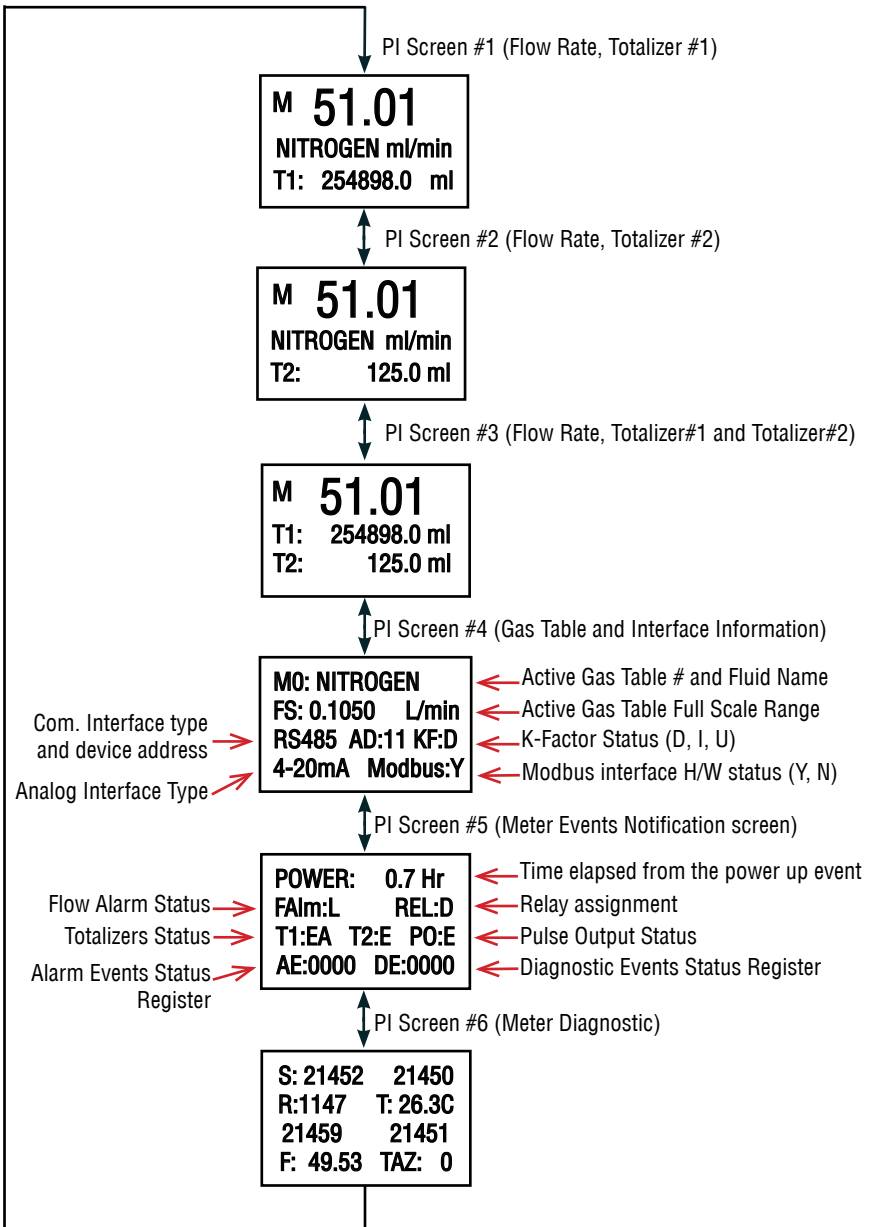

Figure 6.4: ZFM Process Information (PI) Screens
6.3 Meter Process Information (PI) screens
Based on meter configuration, different parameters may be displayed in the Process Information (PI) screen by moving control joystick **UP** or **DN**. Process Information screens can be configured to be static or dynamic (see Paragraph 6.4.11.1 "Display and Process Information (PI) Screens"). Using PI Screen Mask settings user can enable (unmask) or disable (mask) up to 6 different process information combinations (see **Figure 6.4**). In the Static Mode moving joystick **UP** pages through the PI screens in the forward direction, moving joystick **DN** pages through the PI screens in the reverse direction. When the last PI screen is reached, the firmware "wraps around" and scrolls to the initial PI screen once again.